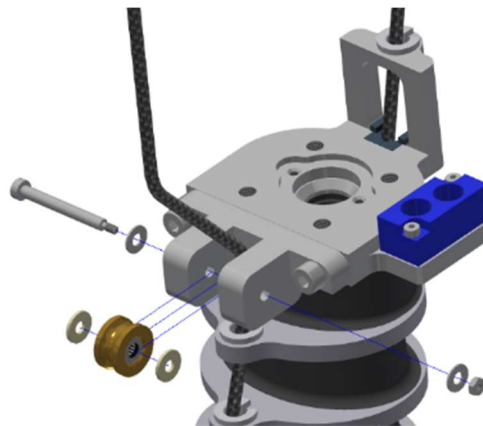

Figure 4-32. Assemble the Rear Pulley Assembly (474-2330)
- 4.3.3 To assemble the Rear Pulley Assembly (474-2330), place a Teflon washer on each side of the assembly and on each side of the pulley (474-2308). Thread the M3 X 25 Precision SHSS SS through the assembly and fasten with an M2 X 0.4 Hex Nut on the other side (Figure 4-32).